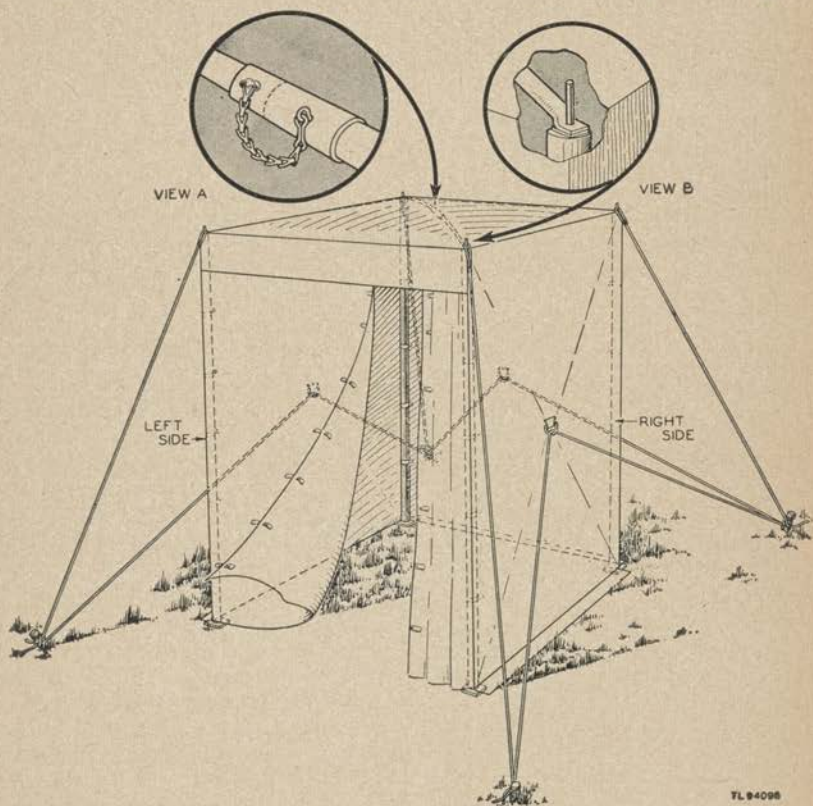

FIGURE 2. Inflation Shelter S-13/TM.
b. INFLATION SHELTER S-13/TM (fig. 2). Inflation Shelter S-13/TM is a portable balloon inflation shelter made of 8-ounce canvas duck which is mildewproofed and waterproofed. The shelter is 9 feet (fig. 2). A D-ring is sewn to the canvas at the center of each side panel and the back panel. A 35-foot length of rope is provided to be cut into three lengths for threading through the D-rings and fastening to the corner stakes to prevent the sides and back from bowing inward.
(12) Cut three lengths of rope long enough to run from one corner stake through the D-ring on the side or back panel and to the other corner stake on the same side. Thread the ropes through the D-rings and tie the ends to the stakes just tightly enough to hold out the shelter walls (fig. 2).
(13) Finally, make the sides and back.